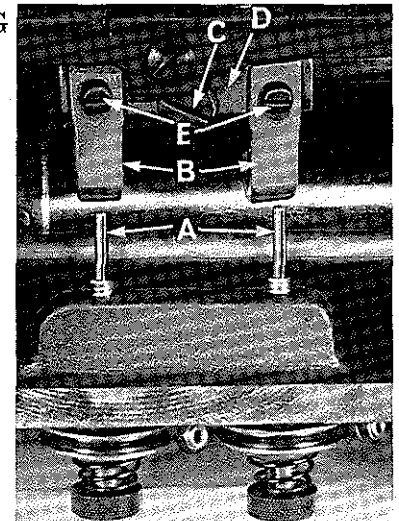

Fig. 21
The tension release pin (A, Fig. 21) should be centered on the tension release arm (B). This adjustment is made by loosening screw (C) and moving the tension release sleeve (D) right or left as required. Tighten screw